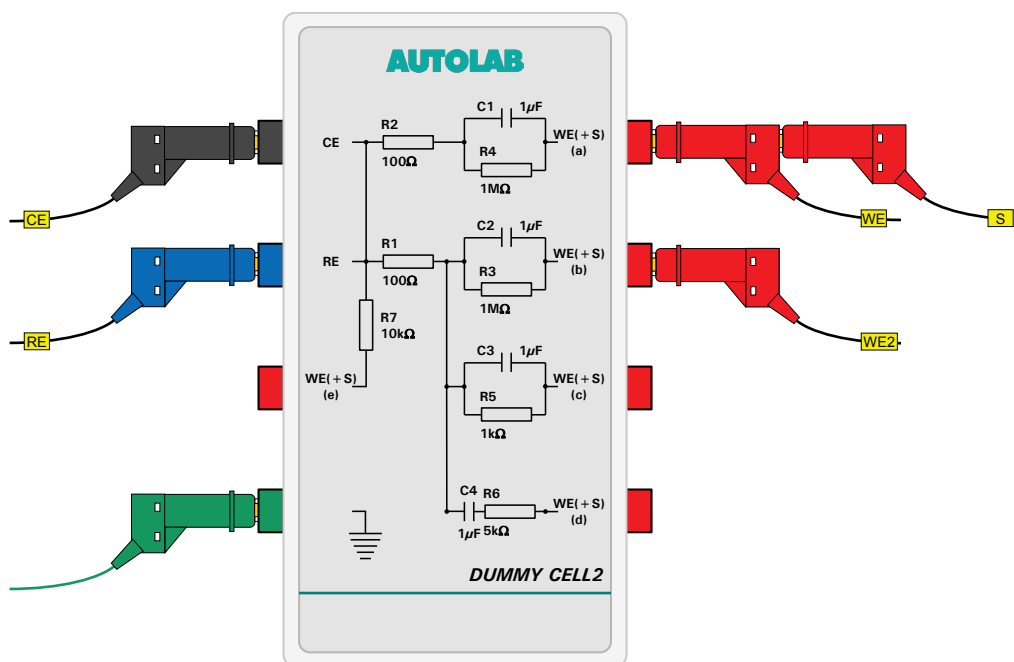

Figure 1.60 – Overview of the connections to the dummy cell required for the TestBA, TestBIPOT and TestARRAY procedures
Load the **TestBA** procedure, connect WE(1) to dummy cell (a) and WE(2) to dummy cell (b) as shown in Figure 1.60 and press the start button.
Load the **TestBIPOT** procedure, connect WE(1) to dummy cell (a) and WE(2) to dummy cell (b) as shown in Figure 1.60 and press the start button.
Load the **TestARRAY** procedure, connect WE(1) to dummy cell (a) and WE(2) to dummy cell (b) as shown in Figure 1.60 and press the start button.